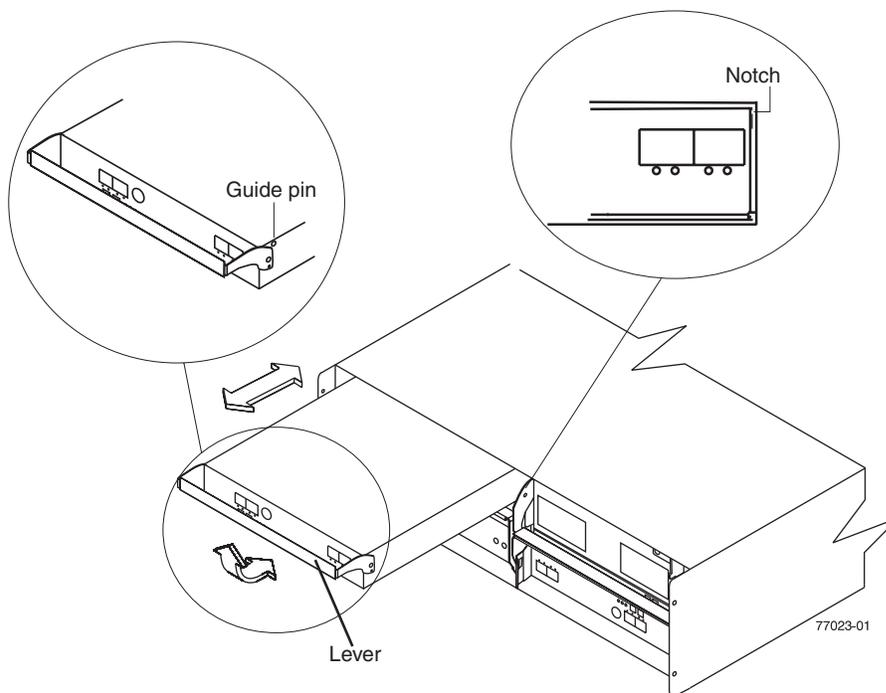

Figure 37. Removing and replacing an Environmental Service Module (ESM)
8. While squeezing the latch, pull the lever open 90° (so that the lever is horizontal). Pull the lever away from the chassis to remove the ESM from the EXP395 midplane, as shown in Figure 37 on page 84.
- b. Slowly pull the lever away from the EXP395 chassis to remove the ESM from the ESM bay, as shown in Figure 37 on page 84. (Remove the ESM from the chassis and place it on an electrostatic discharge (ESD) protected surface.)